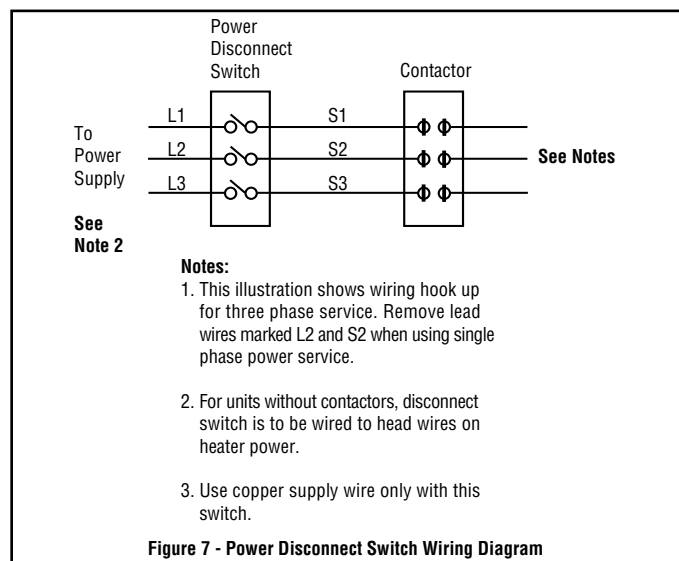

Figure 7 - Power Disconnect Switch Wiring Diagram
1. Use copper conductor supply wire only when connecting to the power line. (See Figure 7.)